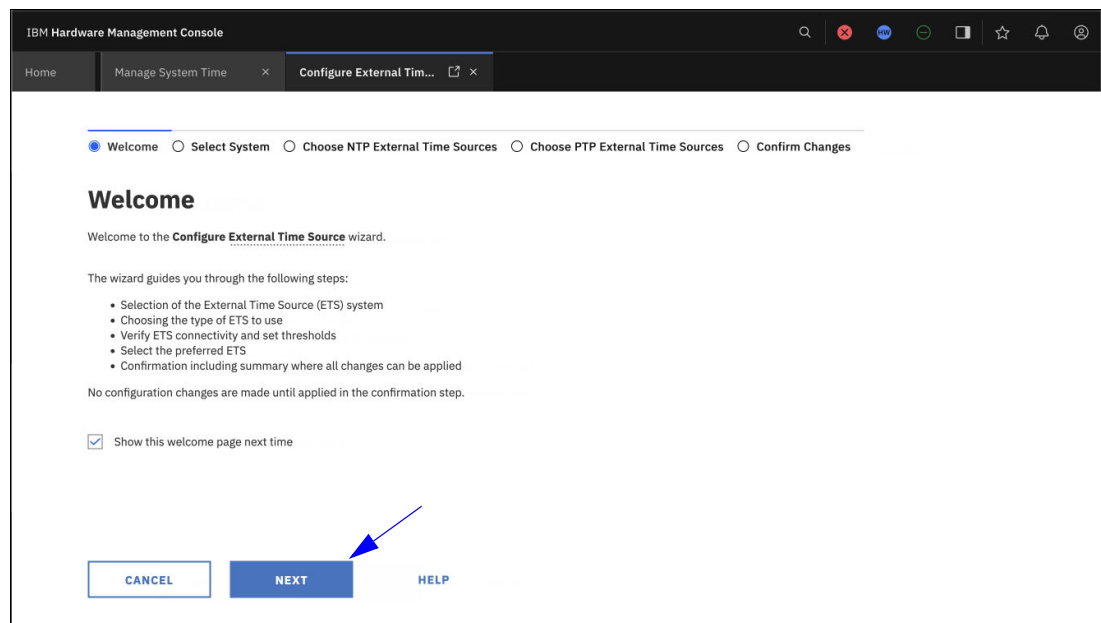

Figure 4-15 Configure External Time Source menu
1. In the Manage System Time task main menu, select the External Time Source menu (Figure 4-15), and click **NEXT**.